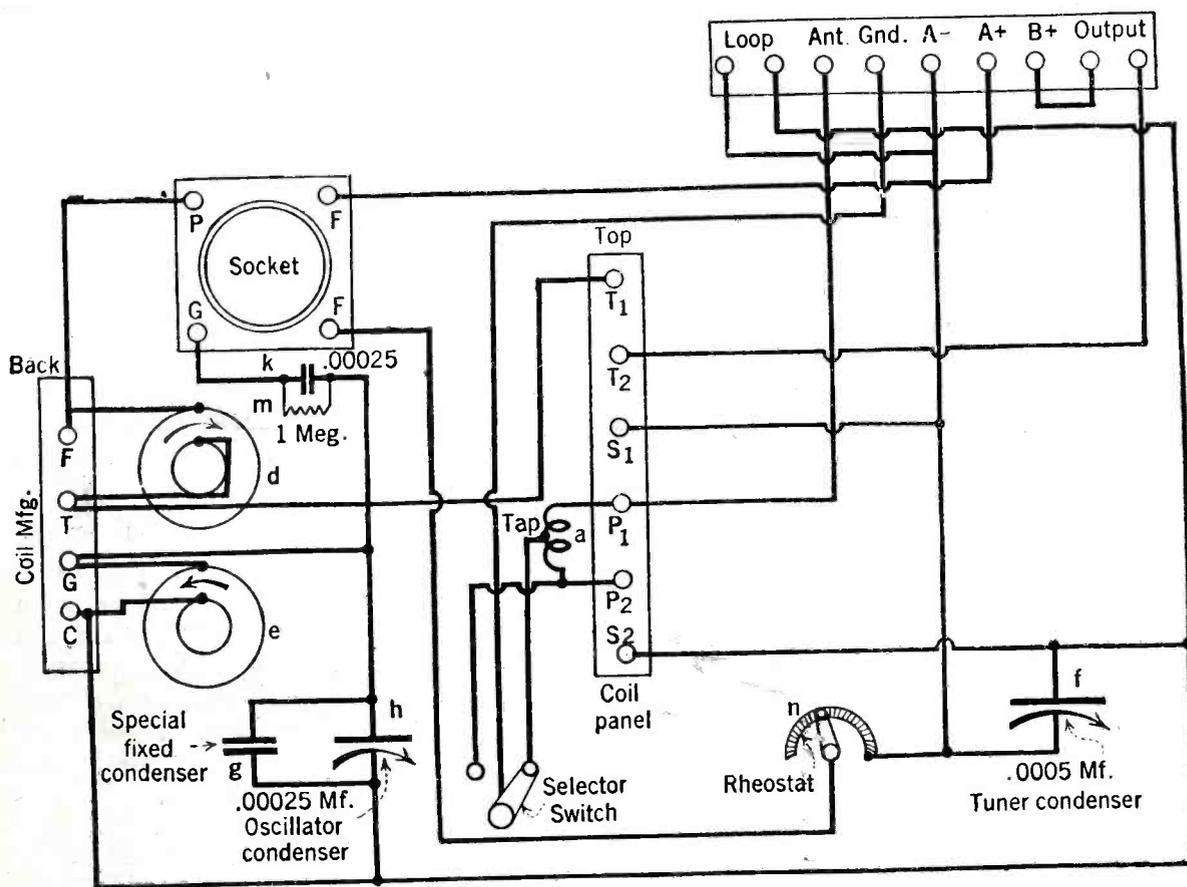

Fig. 6. The wiring diagram of the one-tube super-heterodyne showing the connections of the various units.
- 1 Formica Coupling Member for Item 7 (Fig. 6).
Fig. 4 shows the schematic diagram of the circuit and Fig. 6 shows the connection hookup. In Fig. 6, coils A, B and C are the three windings of a three-circuit tuner, the primary (A) being untuned. Incoming stations are tuned by the condenser F across the primary coil B. Their frequencies are